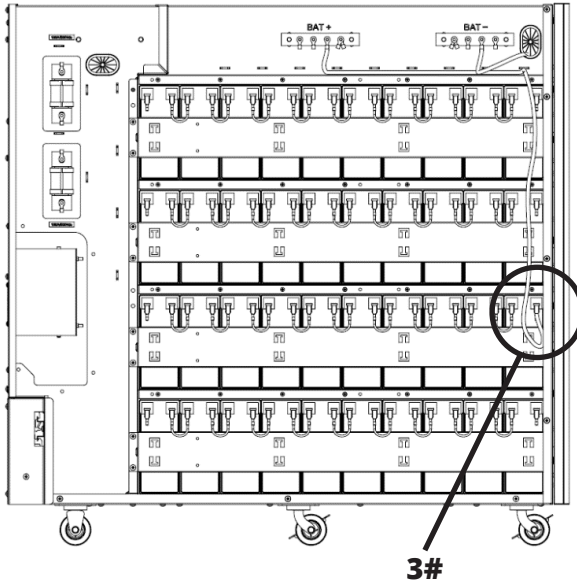

Figure 5-18A
25. Connect group 2 battery 1+ to + battery bus bar (BAT +) (Figure 5-18A).